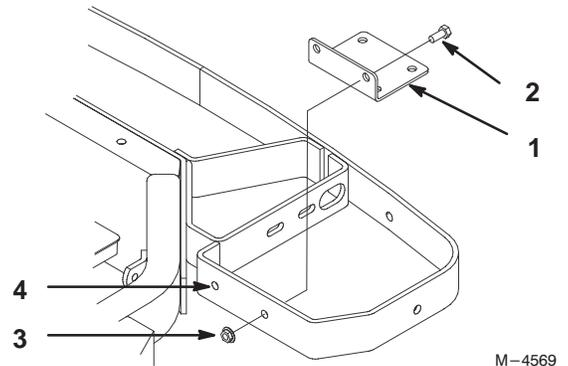

Figure 10
2. Install 5/16" bolts into holes and tighten (Fig. 10).